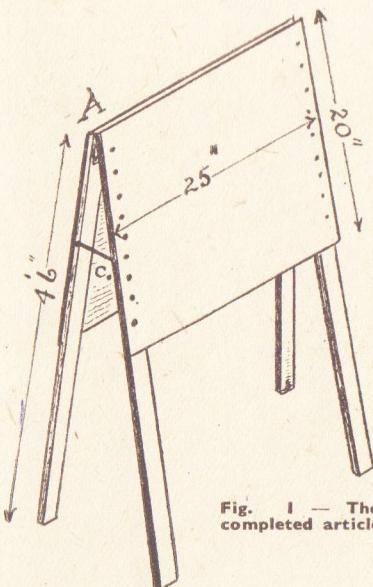
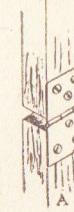

Fig. 1 — The completed article
Fig. 2—The hinge fitting
You should begin by making the legs from the four battens. Mark these out, saw to required length, plane up the faces, and test them with the try-square. Then fix the two 1in. hinges in position to make two pairs of joined battens, as seen at (A) in the diagram. The perspective view in Fig. 1 shows how easily this can be done, whilst a detail of the hinge is given at Fig. 2.